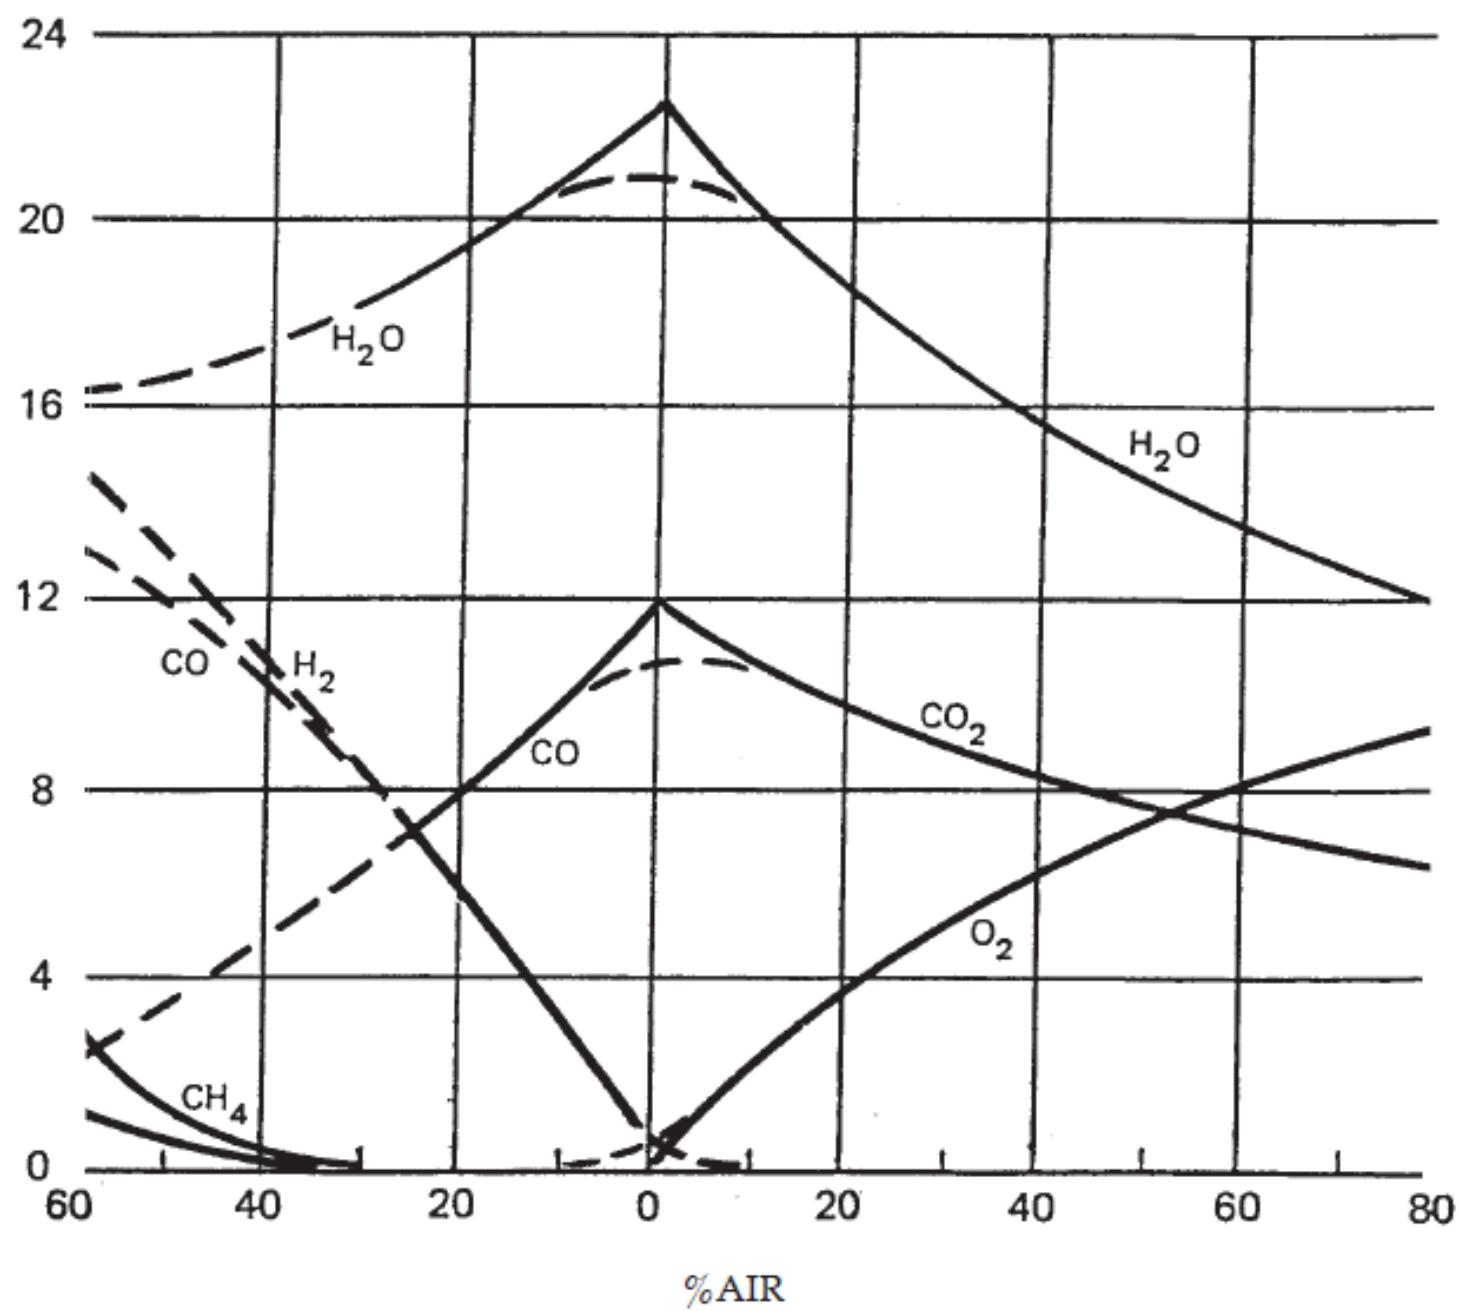

Figure 5.1 Theoretical flue gas analysis versus air percentage for natural gas.
- As illustrated in Figure 5.1, the amount of carbon dioxide, percent by volume, in the exhaust gas reaches a maximum with no excess air stoichiometric conditions.